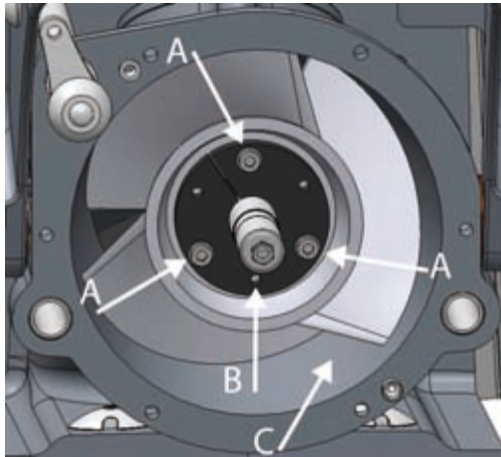
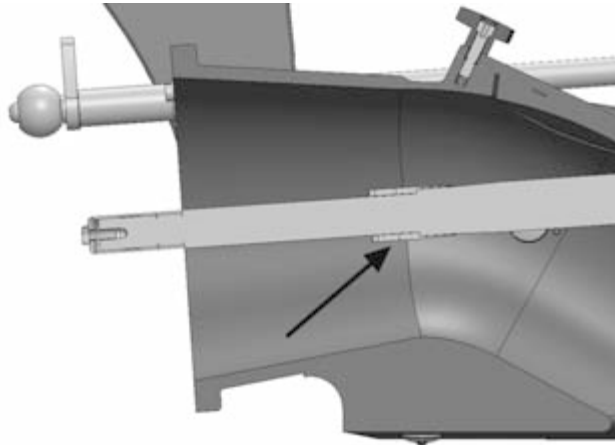

Figure 33. Impeller fastening screws
Figure 35. Adjuster sleeve
4. Loosen the impeller fastening screws (figure 33, point A).
5. Remove one screw completely and screw it into the threaded hole in the plastic mounting cone (figure 33, point B).
The thrust caused by the impeller is transmitted through the adjuster sleeve to the shaft (figure 35). The sleeve consists of rings of different thickness. The length of the sleeve can be adjusted in 0.5 mm (approx. 0.02") increments by changing the number of the rings. This way the impeller gap on the outer race (figure 33, point C) becomes fit.